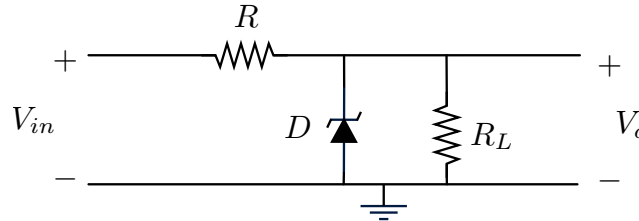

Figure 3: Circuit for Question A.4.
- A.4.a) Consider the circuit in Fig. 3, where the Zener diode has  $V_z = 5V$ , and the supply voltage is  $V_{in} = 9V$ . Design  $R$  so that the current is limited to 20mA when there is no load (i.e.,  $R_L = \infty$ ). (3 pt)